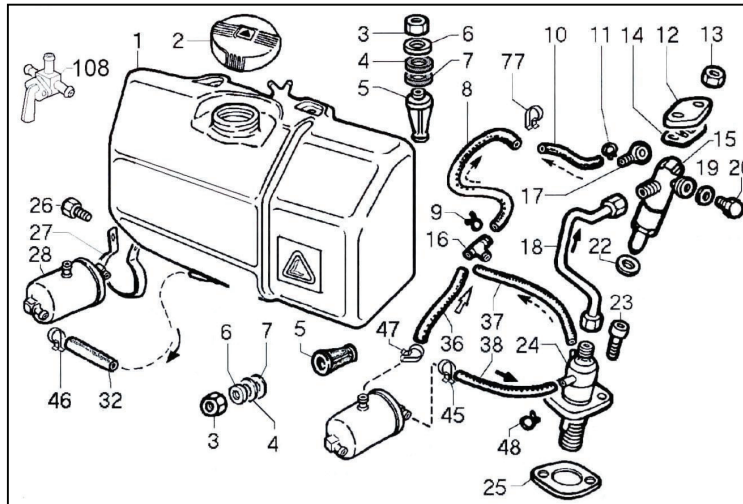

Figure 31
8.7.5 Injector (figure 31, #15)
1. Remove the two nuts (figure 31, #13) that hold the injector plate and gasket (figure 31, #12 & 14) above the injector (figure 31, #15).
2. Loosen and remove the rigid fuel line (figure 31, #18) from the side of the injector (figure 31, #15).
3. Loosen and remove the injector vent line (figure 31, #10).
4. Remove and replace the injector (figure 31, #15) and the injector gasket (figure 31, #22).